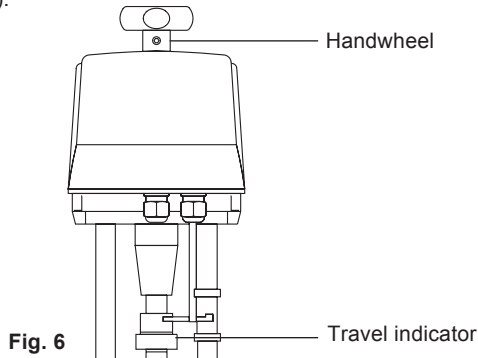

Fig. 6
1. For the electric actuated control valve, use the manual override on top of the actuator to raise and lower the actuator spindle between the two travel indicators located on the side of the pillar (Figure 6).